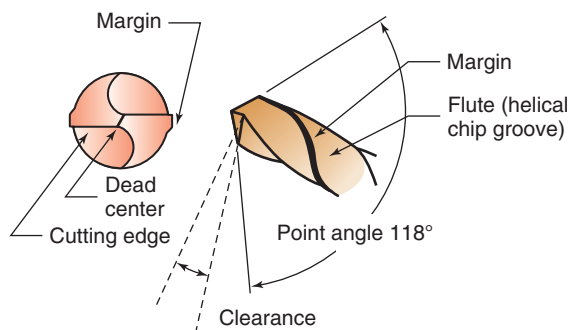

Figure 10-92 The features of a drill bit.
6. The parts of a drill bit (Fig. 10-92)